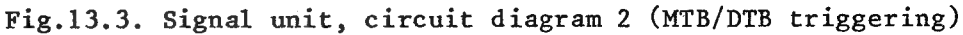

Fig.13.3. Signal unit, circuit diagram 2 (MTB/DTB triggering)
13.2. CIRCUIT DESCRIPTION OF DIAGRAM 2 (See fig.13.3.)